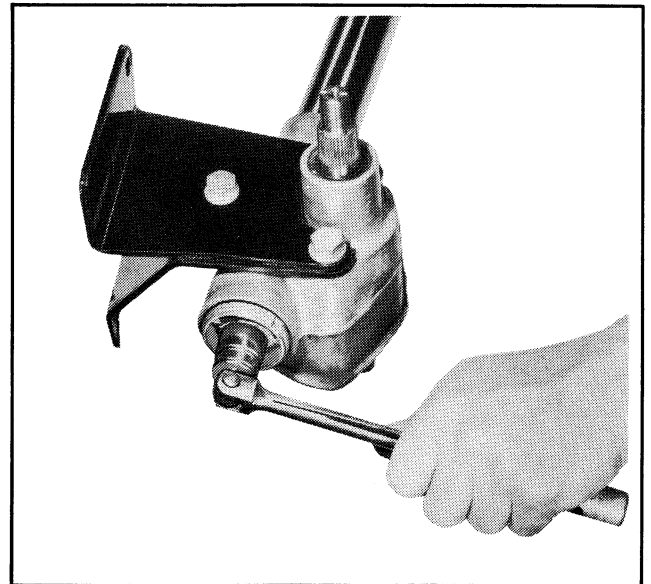

Figure 2-6. Worm Bearing Adjustment
3. See Figure 2-6. Turn end cap in to take up any up and down looseness in steering wheel shaft.